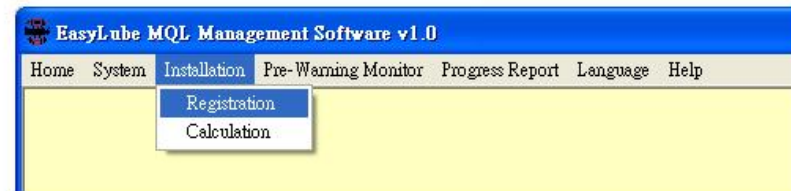

Fig.4
- 4 Next, go to **Installation** ICON, and click **Registration** (Fig.4).
The **INSTALLATION** ICON (Fig.4) included:
- Calculation** – Click **Calculation** (Fig.4) into MQL calculation program; or go to **Registration** click each targeted lube point on the table (the single information will appear on screen) and then click **GO** button for calculation, revise or review record.